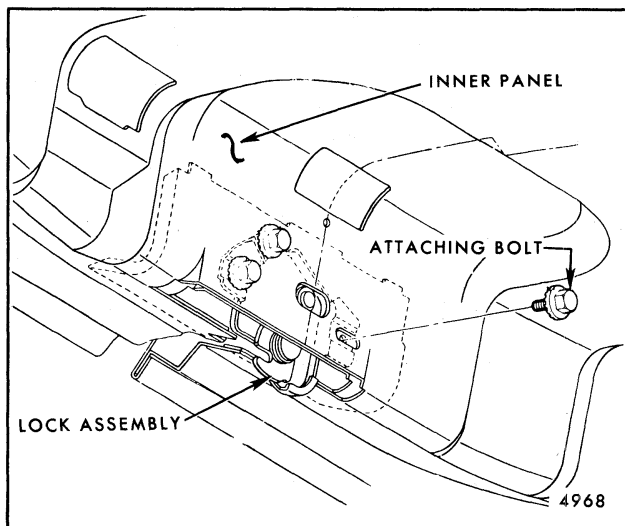

Fig. 7-25-Typical Rear Compartment Lock Mounted in Lid
- Remove attaching bolts securing lock (Figs. 7-25, 7-26 and 7-27) to rear compartment lid or rear end panel.